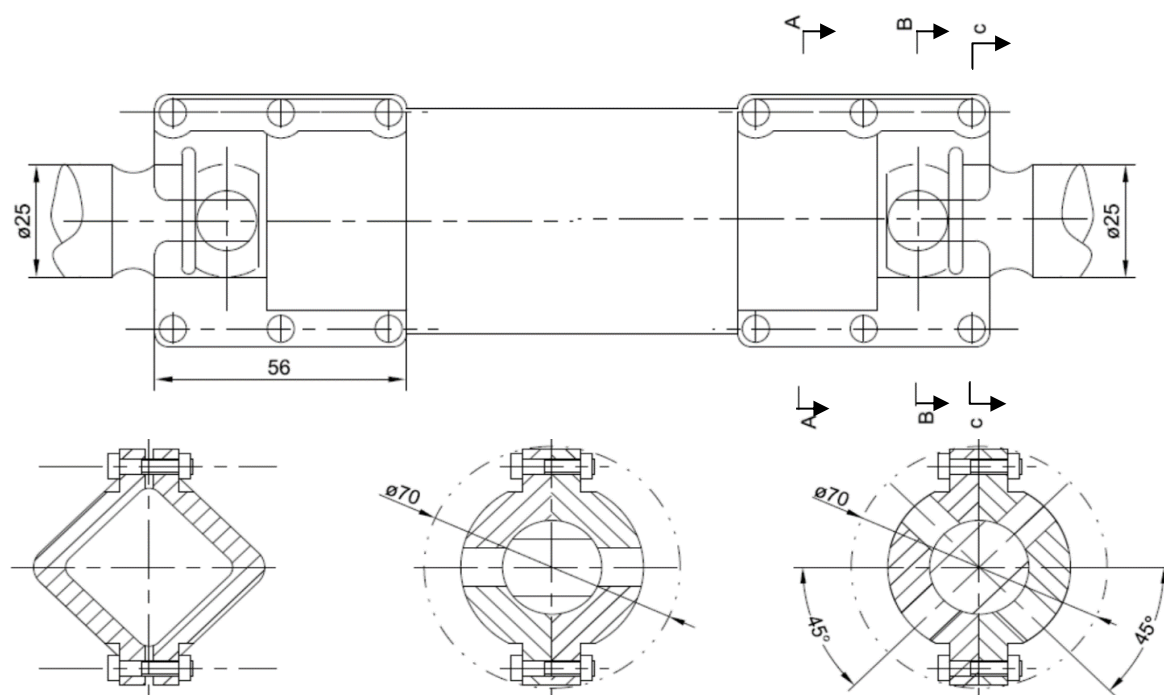

Figure 48 Install the drive shaft
- 1) Install the horizontal and vertical drive shafts according to the relevant Huaming drive shaft instruction manual. (Figure 48)